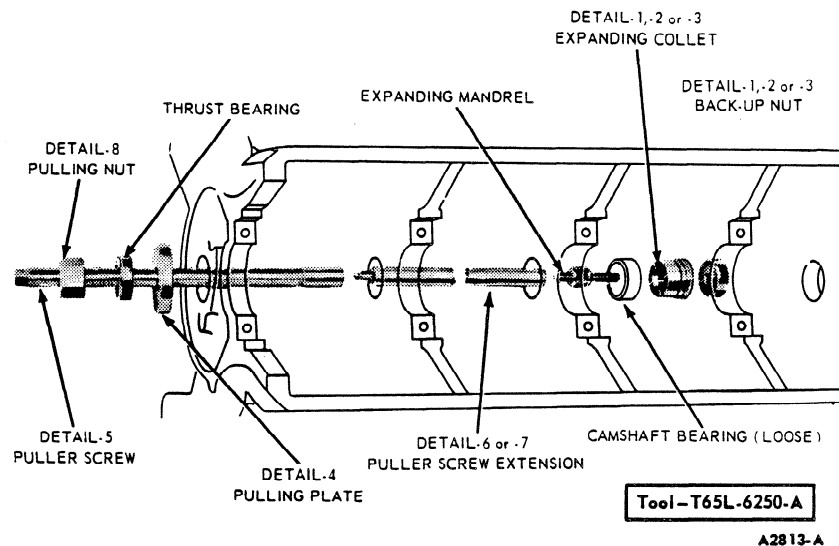

FIG. 59 Replacing Camshaft Bearing
3. Remove the camshaft rear bearing bore plug. Remove the camshaft bearings with the tool shown in Figure 59.
1. Position the new bearings at the bearing bores, and press them in place with the tool shown in Figure 59. Be sure to center the pulling plate and puller screw to avoid damage to the bearing. **Failure to use the correct expanding collet can cause severe bearing damage.** Align the oil holes in the bearings with the oil holes in the cylinder block before pressing bearings into place. **Be sure the front bearing is installed the specified distance below the front face of the cylinder block.**
3. Invert the engine on the work stand. Position new camshaft bearings in the cylinder block, making sure that the oil holes in the bearing are aligned with those in the block. Press them in place (Figure 59). **Be sure the camshaft front bearing is installed the specified distance below the front face of the cylinder block.**